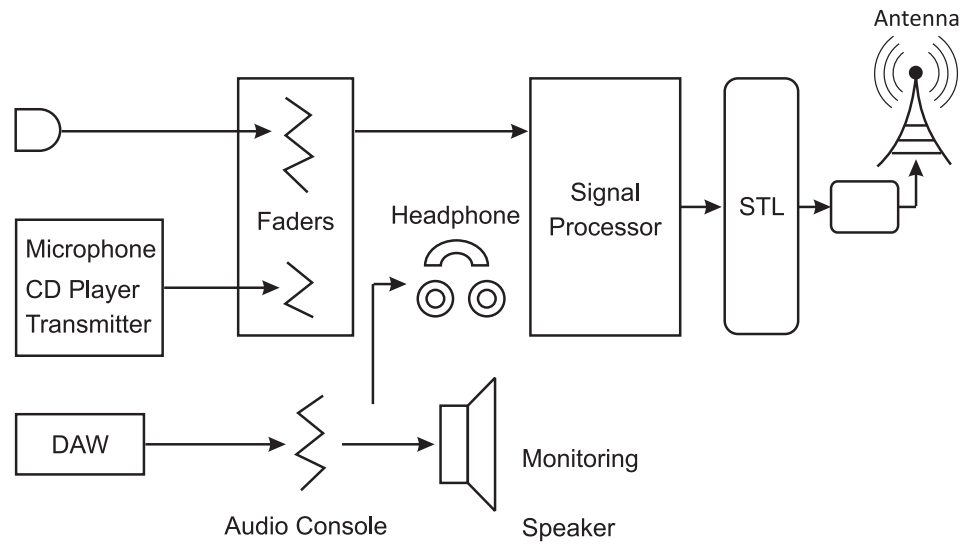

Figure 11.1: Audio Chain of a broadcast studio
Normally, the programme originates from a studio and is then broadcast using a transmitter, which might be Amplitude Modulated (AM) or Frequency Modulated (FM) mode. The broadcast of a programme from source to the listener involves use of a device to pick up sound i.e. microphones, recording/playback and signal processing equipment, routing of audio signal from studio to transmitter location using a studio transmitter link and finally the transmitter. Figure 11.1 shows a simplified block schematic of the audio chain of a broadcast studio.